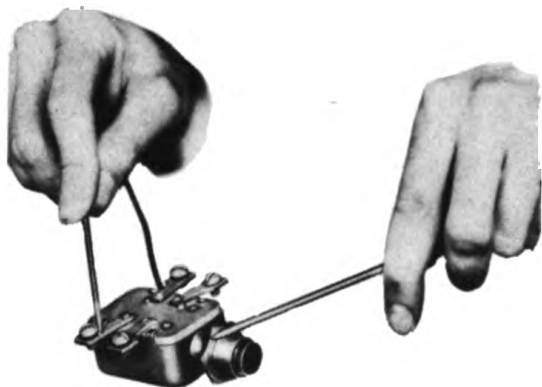

Figure 262. Testing Push Button Switch for Grounds.
1. Check the push button for grounds and opens. Touch the frame of the button with a test probe and touch each terminal in turn with the other probe, as shown in Figure 262. If the lamp lights, the push button switch is ground and should be replaced.